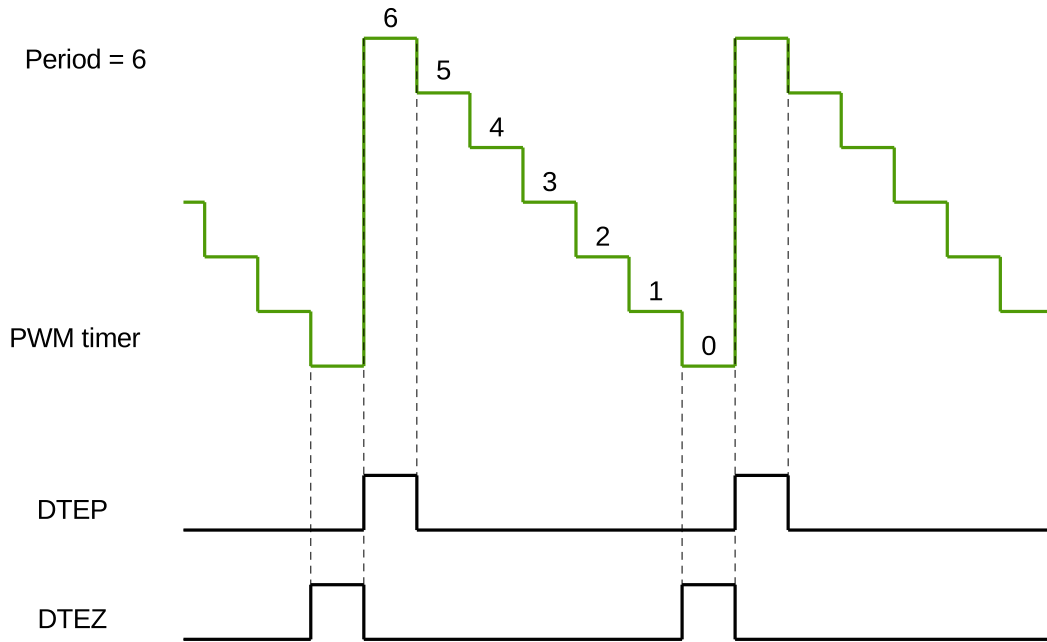

Figure 103: DTEP and DTEZ Generation in Count-Down Mode
2. DTEP and DTEZ do not happen simultaneously. When the PWM timer is in count-down mode, DTEZ will always happen one cycle earlier than DTEP, as demonstrated in Figure 103, so their action on PWM signals will not interrupt each other. When the PWM timer is in count-up-down mode, DTEZ will not occur.